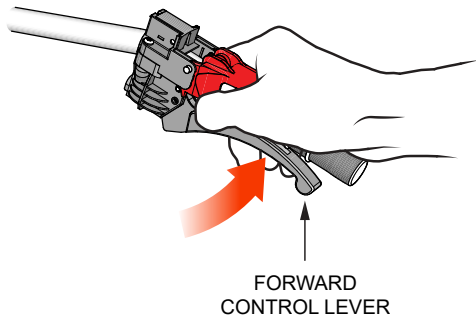

Figure 11. Forward Control Lever
6. While keeping the deadman lever squeezed, slightly squeeze the **forward** control lever (Figure 11) until the buggy begins to move in a **forward** direction.
8. Slightly squeeze the **forward** control lever (Figure 11) until the buggy begins to move in a **reverse** direction.